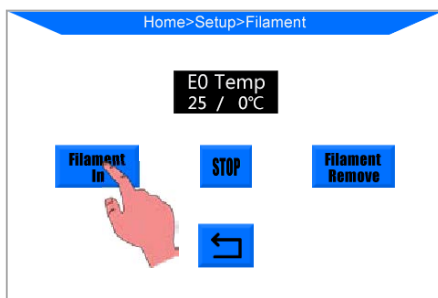

Figure 30
2. After the pre-heat is finished, please click on Home screen “Tools”--> “Filament” --> “Filament in”(Fig.30). The extruder motor will start to feed the filament into the hotend. There might be some excessive filament melt through the nozzle at high temperature, use tweezers to carefully remove it from the nozzle tip before print.